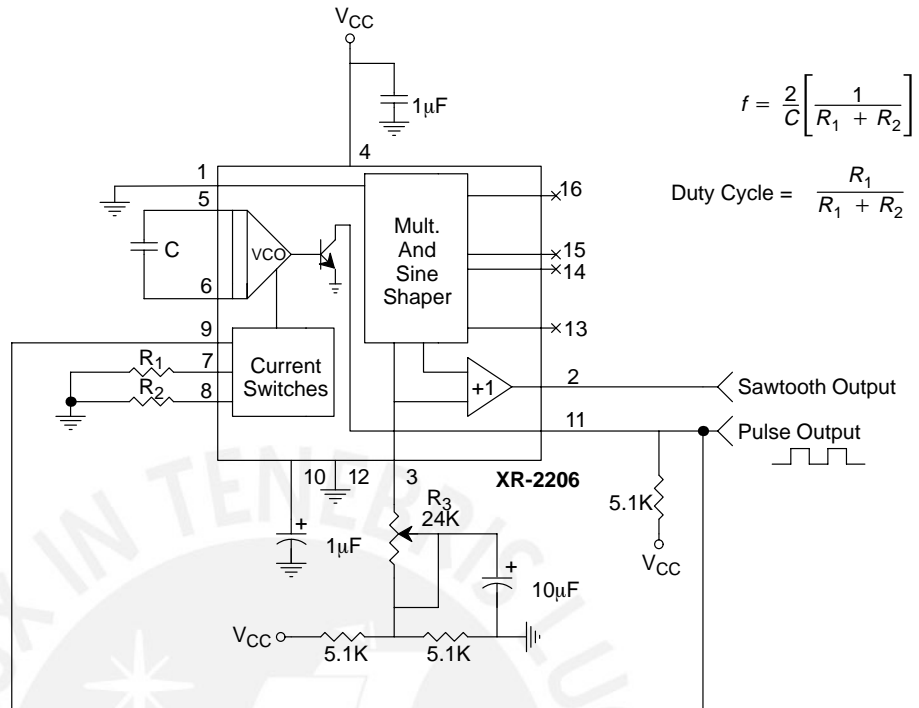

Figure 14. Circuit for Pulse and Ramp Generation.
*Figure 14* shows the circuit for pulse and ramp waveform generation. In this mode of operation, the FSK keying terminal (Pin 9) is shorted to the square-wave output (Pin 11), and the circuit automatically frequency-shift keys itself between two separate frequencies during the positive-going and negative-going output waveforms. The pulse width and duty cycle can be adjusted from 1% to 99% by the choice of  $R_1$  and  $R_2$ . The values of  $R_1$  and  $R_2$  should be in the range of  $1\text{k}\Omega$  to  $2\text{M}\Omega$ .